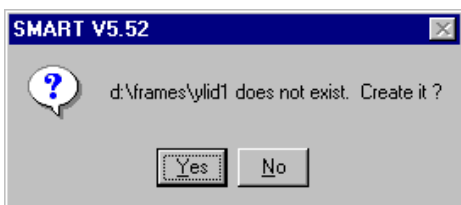

Figure 4-13. Create the new directory
6. Press Yes. Another message prompts you to create the new directory (Figure 4-13). The message will appear twice if the working directory and the data directory are not the same.